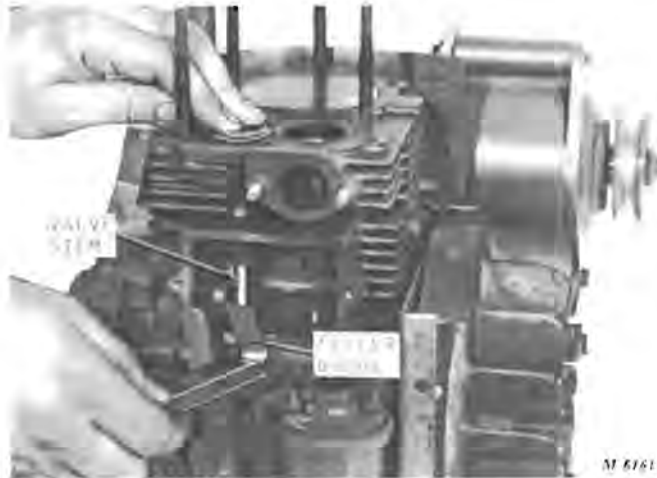

Fig. 22—Checking Valve Clearance
3. Check clearance between bottom of each valve stem and its lifter with a feeler gauge, Figure 22. Refer to "Specifications," page 30-11, for proper valve clearance. Grind off tip of valve stem in a valve resurfacing machine set to grind a perfectly square face. Grind tip of stem until proper clearance is obtained.